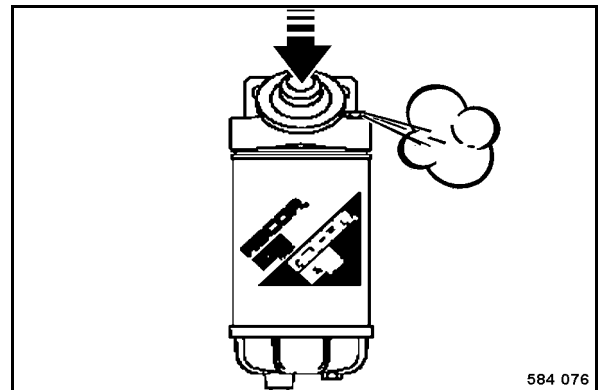

Fig. 160
- Slacken the bleeding screw (Fig. 160) on the fuel pre-filter for 2 to 3 turns.